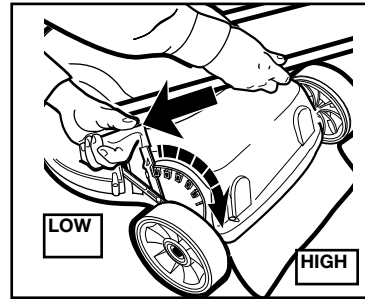

FIGURE 8
- Place your left hand on the height adjust handle and your right hand on the lower handle as shown in Figure 8.